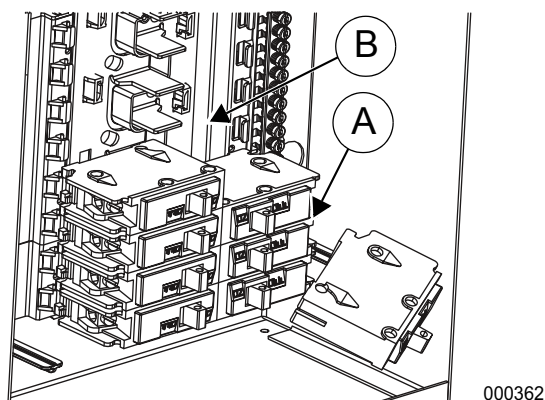

Figure 3-3. Install Breakers
- See Figure 3-3. Insert tab on each breaker (A) into the hook on the bus (B). Push the breaker into the bus until it snaps into place.